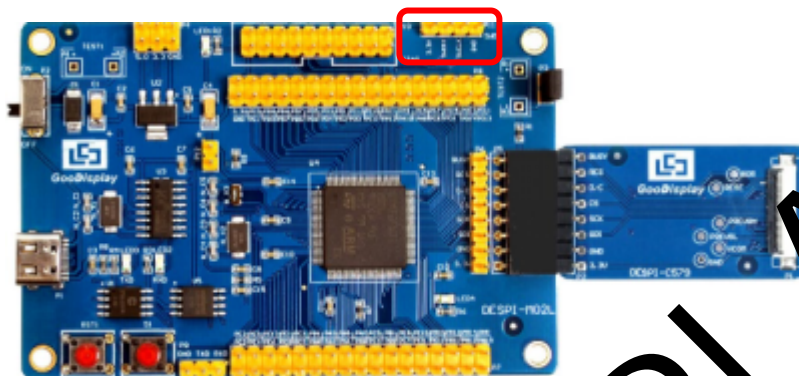

Figure 10:SWD interface
1) As shown in figure 10, DESPI-M02L has a 4-wire SWD interface, which can be connected to the simulator interface by 4 wires and then connect the simulator to the computer.